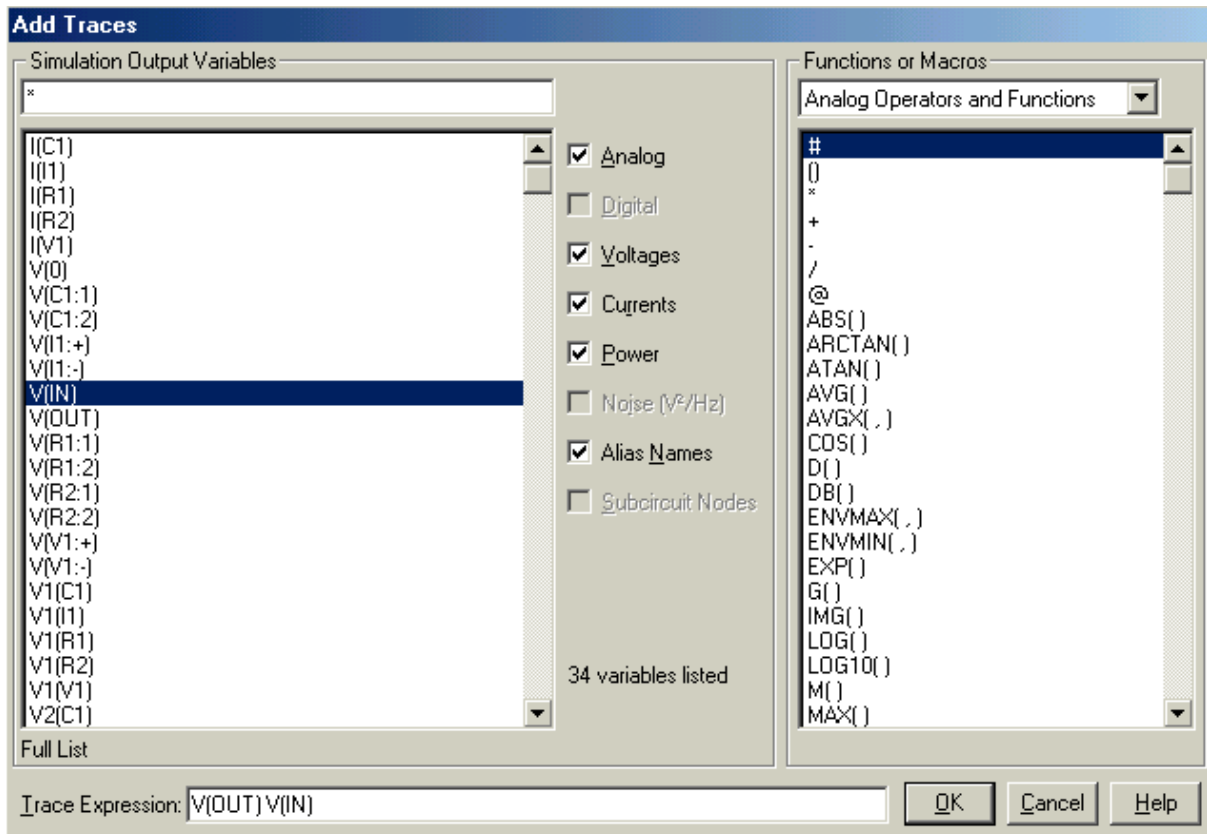

Figure 9. Add Traces window
6. When adding traces you can perform mathematical calculations on the traces, as indicated in the Add Trace Window to the right of Figure 9.